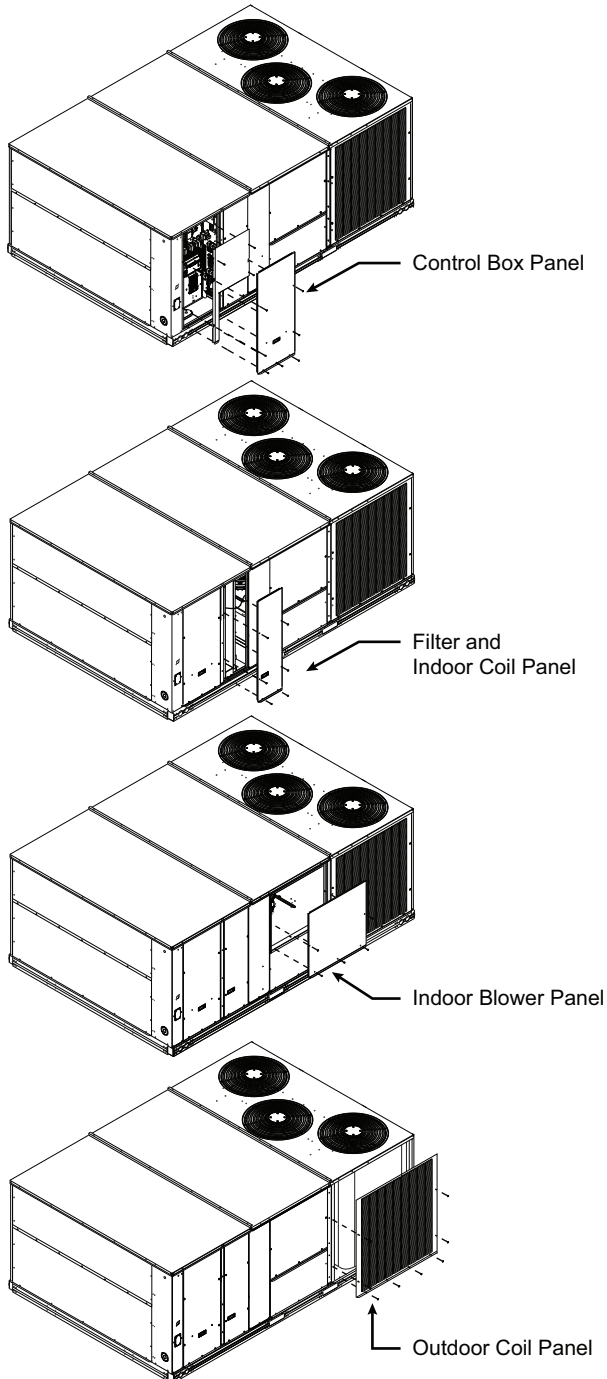

Fig. 19 — Remove Panels (Chassis 6 Shown)
1. Remove the following unit panels to provide easier access for installing the SAT and OAT sensors (See Fig. 19.)